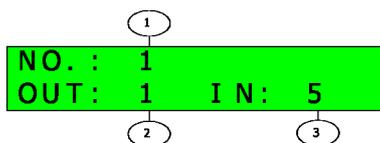

Figure 10:View macro menu
a) To the following figure 10, the cursor is at ②.
b) Unlock the panel if the panel locked (The LED displays as above figure 10).
c) Select macro number: Move cursor to ① to select the macro number to be viewed through the MACRO and Enter button.